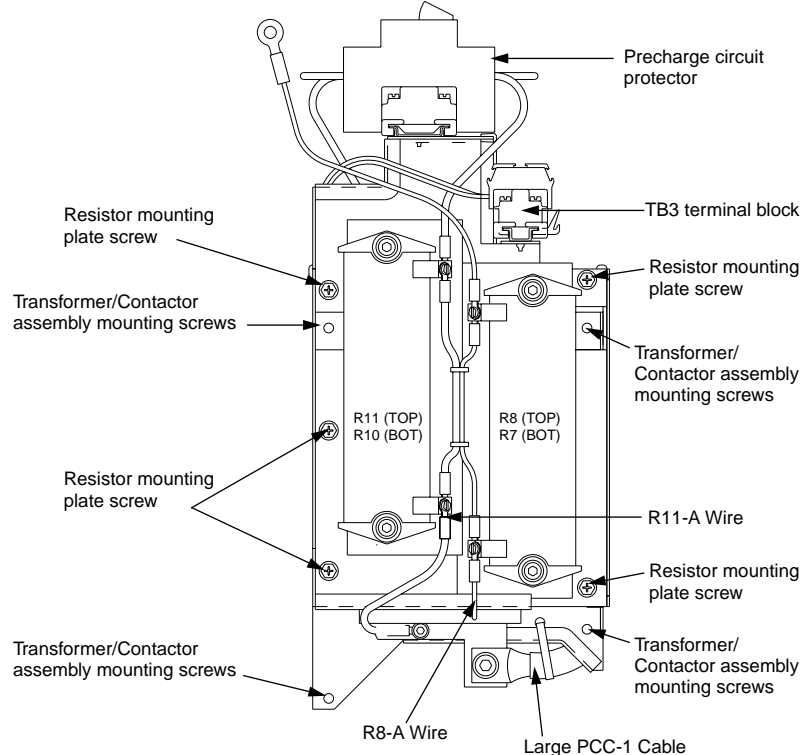

Figure 4.1.28: Transformer/Contactor Assembly Front View
2. Using a flat blade screwdriver, loosen the six terminal screws on the precharge circuit protector. Remove the two wires and two jumpers from terminals (see Figure 4.1.28 on page 4.1.67). Save the jumpers for later use.
4. Slide the new precharge circuit protector onto the mounting rail with the START button facing outwards (see Figure 4.1.28 on page 4.1.67).
2. Using a flat blade screwdriver, loosen and remove the two wire connection screws on resistor R10 and the two wire connection screws on resistor R11 (see Figure 4.1.28).
3. Using a hex key wrench, loosen the two precharge resistor mounting screws (see Figure 4.1.28). Remove the two precharge resistors still stacked together. Record the arrangement of washers and use this as a guide when assembling the new precharge resistor assembly.
2. Using a flat blade screwdriver, remove the screws which connect the R11-A and R8-A wires to the resistors (see Figure 4.1.28 on page 4.1.67).
3. Using a drive socket, loosen and remove the five resistor mounting plate screws. Lift the bottom of the resistor plate upwards to expose the precharge contactor (see Figure 4.1.28). Secure resistor plate with wire ties or some other restraining device.
8. Replace the resistor plate assembly into its mounting location on the front of the transformer/contactor assembly. Using a torque wrench with a drive socket, install and tighten the five mounting screws to 35.4 lb-in (4.0 N•m) (see Figure 4.1.28 on page 4.1.67).
9. Align the R11-A and R8-A wire connectors over their mounting locations on the two resistors. Using a torque wrench and flat blade screwdriver socket, install and tighten the two mounting screws to 8.9 lb-in (1.0 N•m) (see Figure 4.1.27 and Figure 4.1.28).
6. While supporting the transformer/contacter assembly, use a drive socket with a 12" extension to loosen and remove the four transformer/contacter assembly mounting screws (see Figure 4.1.28 on page 4.1.67). Remove the assembly.
7. Using a flat blade screwdriver, remove the screws which connect the R11-A and R8-A wires to the resistors (see Figure 4.1.28).
9. Using a drive socket, loosen and remove the five resistor mounting plate screws. Lift the resistor plate assembly out and swing over to the left to expose the precharge contactor (see Figure 4.1.28).